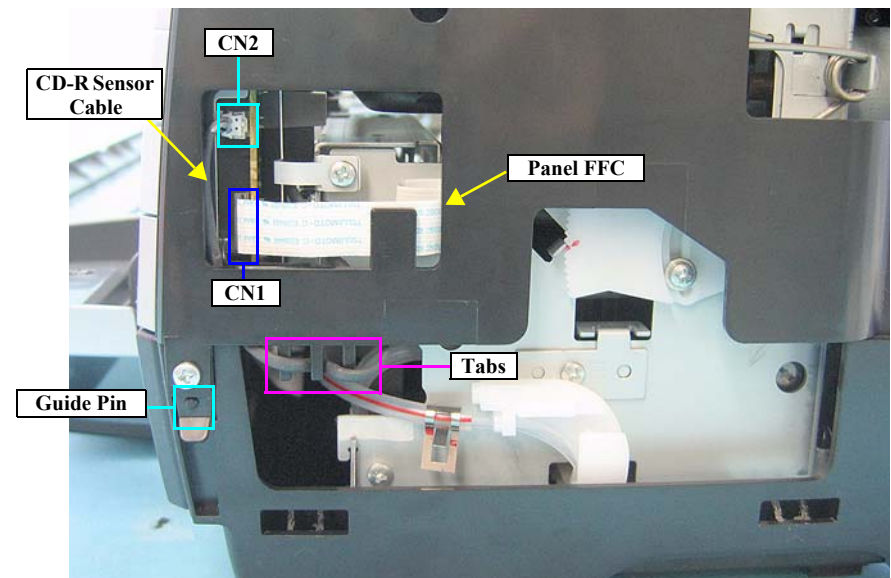

Figure 4-12. Disconnecting the CD-R Sensor Cable and Panel FFC
- Referring to Figure 4-12, correctly route the Panel FFC and CD-R Sensor Cable.